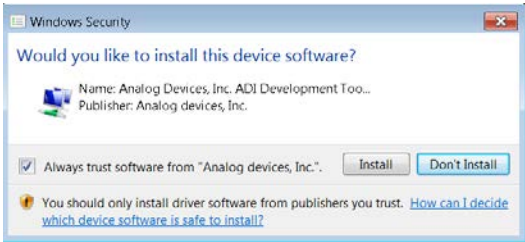
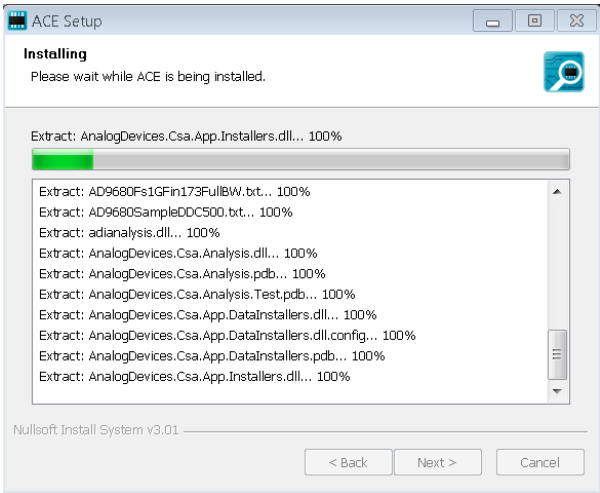

Figure 7. Windows Security Window
Figure 8. Installation in Progress
8. The **Windows Security** window opens (see Figure 7). Click **Install**. Figure 8 shows the installation in progress. No action is required.